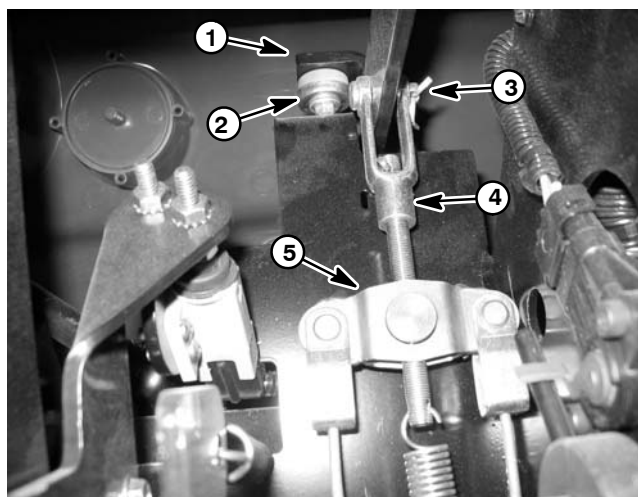

Figure 2
2. Depress brake pedal lightly (10 to 15 pound input force) until resistance is achieved. Check the gap between the brake lever and the brake lever stop to determine the distance the brake equalizer needs to be adjusted (Fig 2).